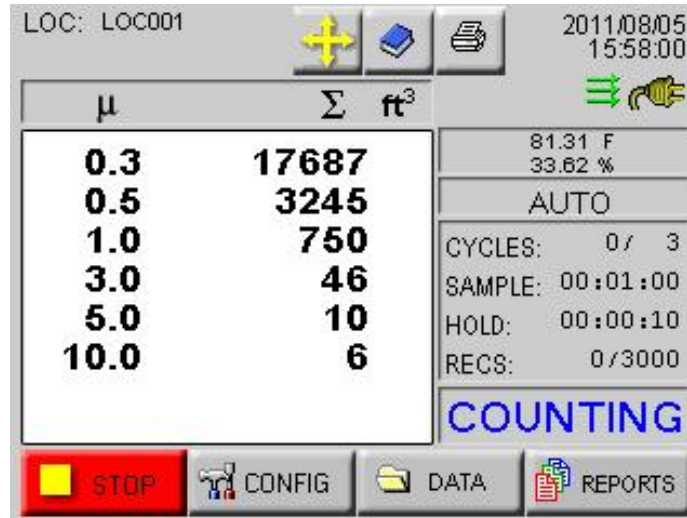

Figure 6-5 Counting Mode
- START/STOP:** Press START button on the screen to start counting. When running, the instrument will display "COUNTING" in the lower right corner of the screen as shown in Figure 6-5. Press the STOP button to stop counting; the word "STOPPED" will display.